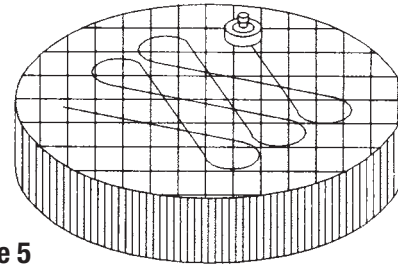

Figure 5
2. Select the appropriate compound from Table 1 and place a small amount on the lap. When lapping the disc, use a light figure eight motion (Figure 5). Frequently lift the disc away from the glass or block to get a new bite on the compound.